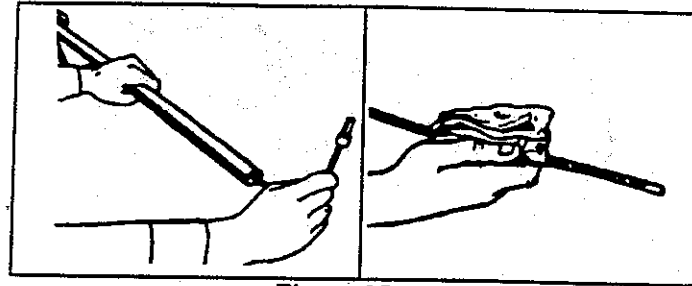

Figure 25
2. Remove the Drive Shaft from the drive Shaft Housing. Figure 25 .